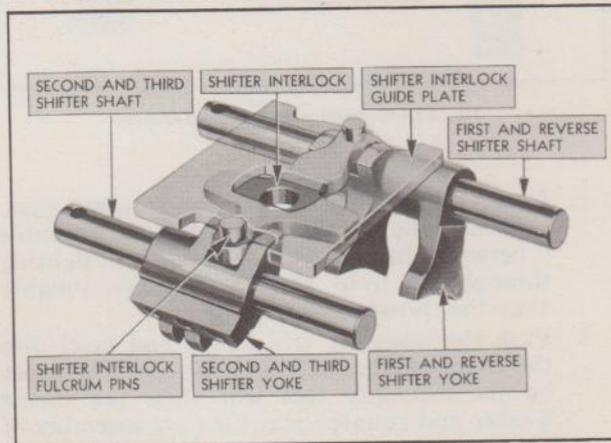

Fig. 14—Shifter Mechanism
4. Lay the shifter interlock in slots in the shifter yokes, with the pins upward. The interlock shifter lies in the slots so that the hole is closer to the second and high speed shifter shaft. The illustration Fig. 14 shows the relationship of the various parts of the shifter mechanism.